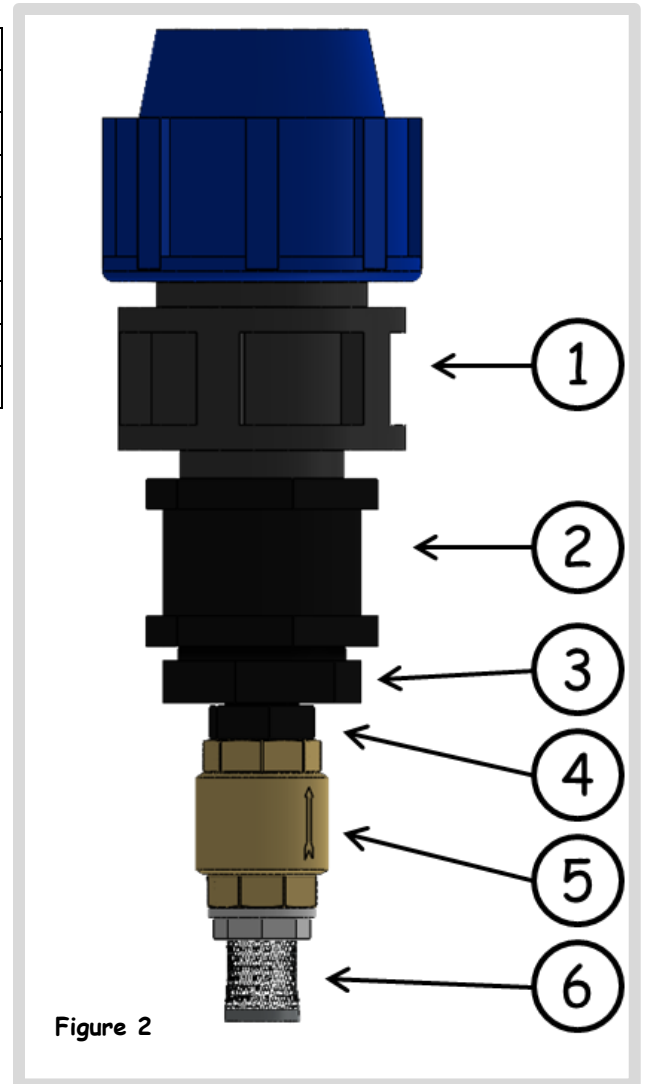

Figure 2
5. Assemble the foot valve as shown in Figure 2. (connecting part 2 and 3 can be difficult due to the nylon pins)